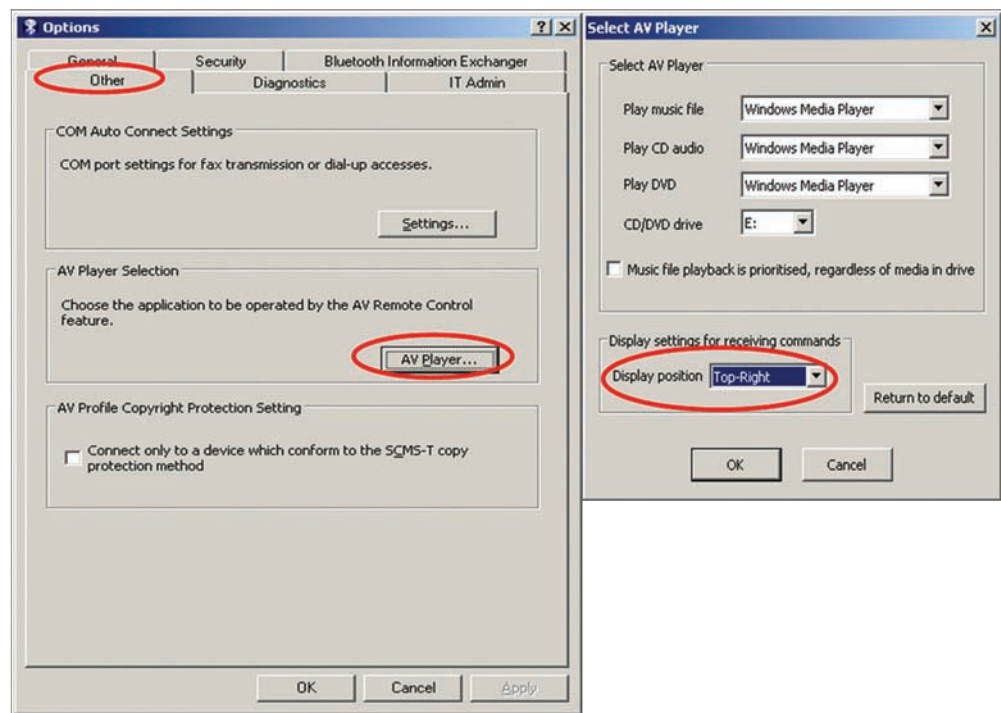

Figure 3.17: AVRCP Example 1 – Player Selection and Receiving Commands Display Setup
4.) Go to "Other" tab of Bluetooth Options and Click Button "AV Player..." (Figure 3.17)
5.) Select "TopRight" at the "Display Position" dropdown menu (Figure 3.17)